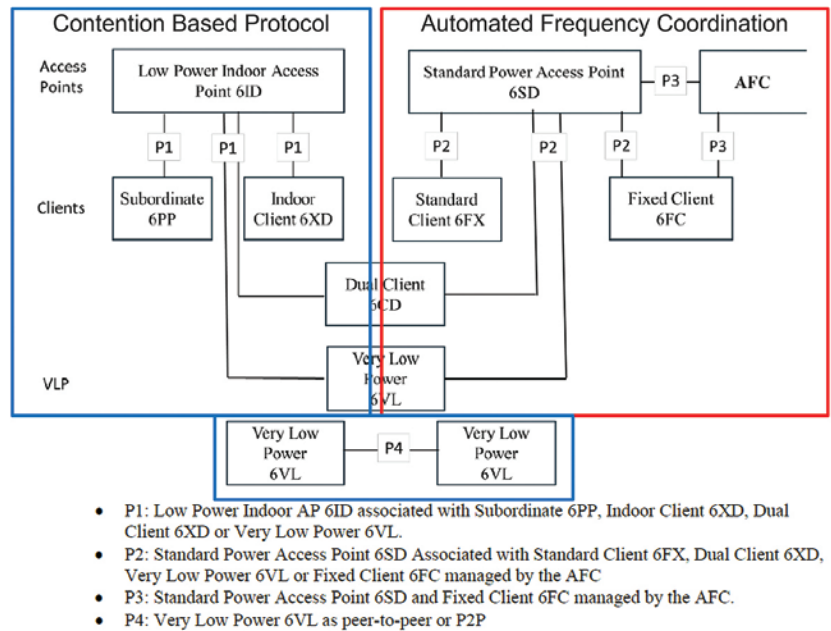

Figure 2: Approved FCC Subpart E equipment classes, including VLP devices, with test requirements
Figure 2 shows the recently approved (October 2024) equipment classes that now include very low power (VLP) devices. These devices may be connected to an access point or operate in a peer-peer association (think augmented reality (AR), etc.). Note that VLP devices that are in a peer-peer association are not required to be managed by an AFC system unless they are also connected to an SP AP. VLP devices can be used either indoors (LPI environment) or outdoors (SP environment) and must implement a CBP and Transmit Power Control (TPC) functionality. With the recently published Third Rule and Order, the FCC also allows these devices to use the whole 6 GHz band (5925 – 7125 MHz).